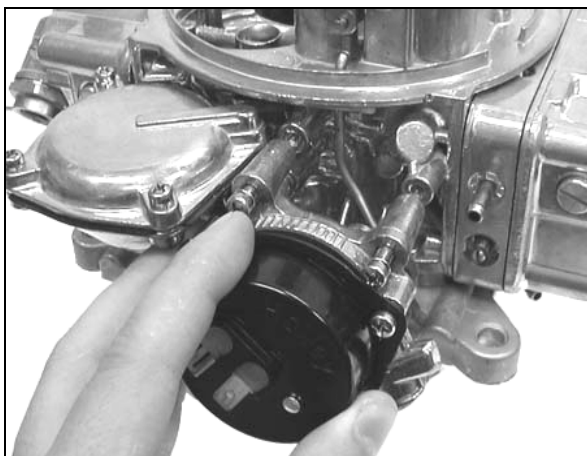

Figure 13
1. Remove the choke cap and choke housing to gain access to the third screw retaining the vacuum diaphragm to the main body (Figure 13).